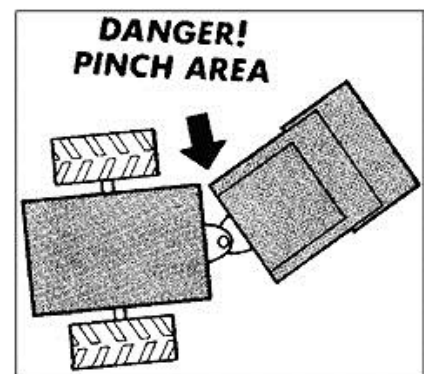

Figure. 1-8
- Never allow anyone to stand within the danger area of roller's collision when the engine is running. (as shown in Figure. 1-8)